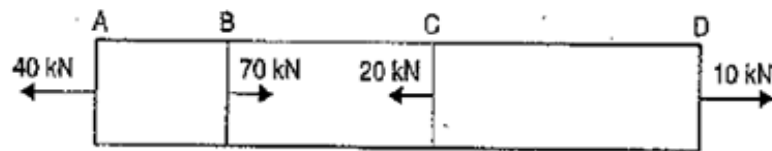

Fig: 1
b) A brass bar, having cross-section area of  $900 \text{ mm}^2$ , is subjected to axial forces as shown in **Fig.1** in which  $AB=0.6\text{m}$ ,  $BC=0.8\text{m}$  and  $CD=1.0 \text{ m}$ . Find the elongation of the bar. Take  $E = 2 \times 10^5 \text{ N/mm}^2$ . (Level – 3) (CO -1)